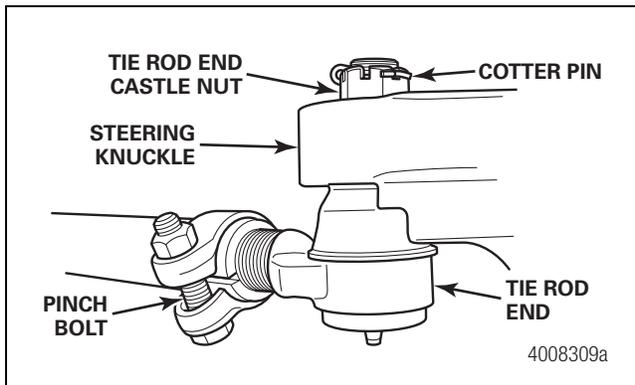

Figure 3.11
1. Remove and discard the cotter pins from the tie rod end castle nuts. Figure 3.11.